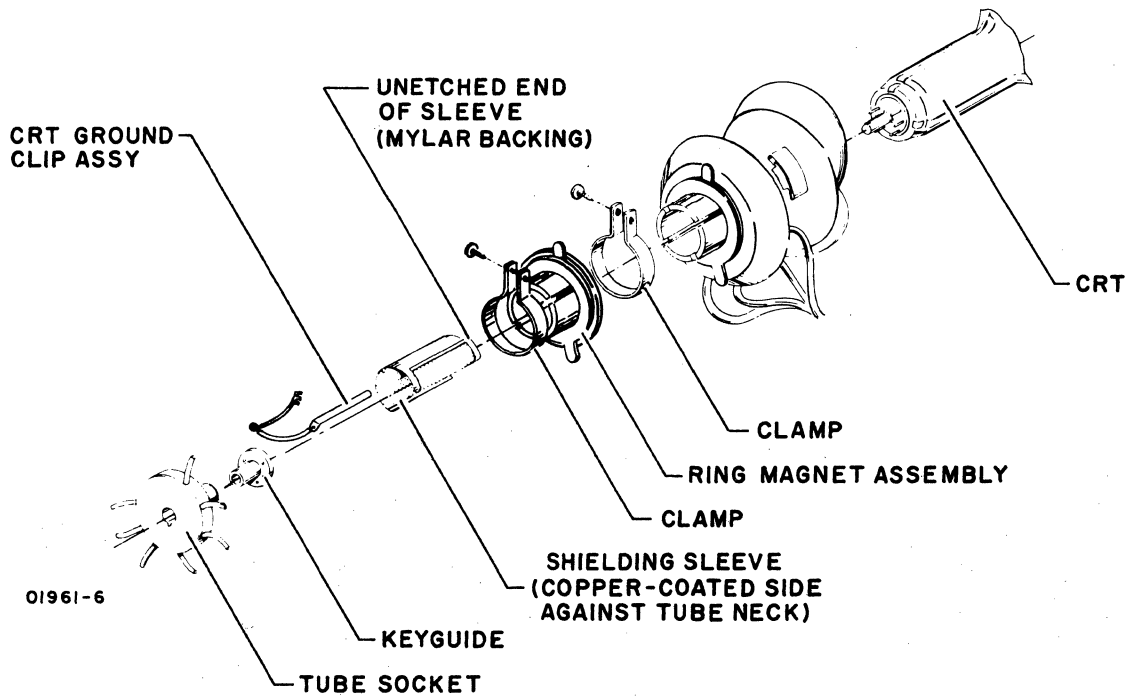

Figure CRT18. CRT Yoke Assembly
- 7) Remove crt ground clip from underneath shielding sleeve. Slide ring magnet assembly back on crt neck (figure CRT18) and remove. Gently slide yoke and shielding sleeve (which is between crt neck and yoke) back on crt neck to ensure it is loose enough for later removal.
- 15) Position shielding sleeve (figure CRT18) on neck of crt with one hand and slip yoke over neck and slide forward over sleeve. Sleeve should stick out from back of yoke (CRT19) when yoke coils are against tube.